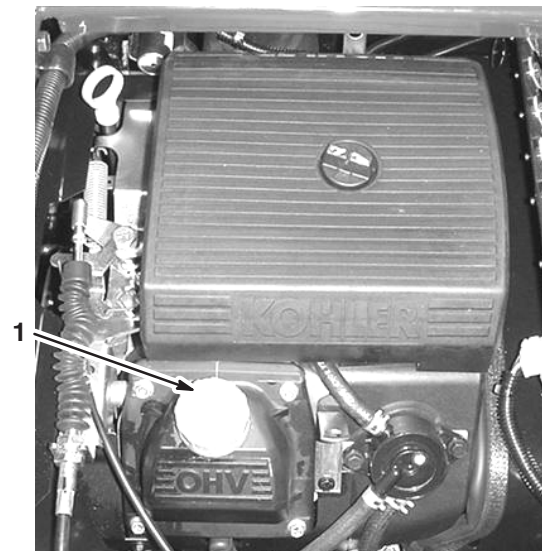

Figure 32
8. Slowly pour approximately 80% of the specified amount of oil into the oil filler tube (Fig. 32).